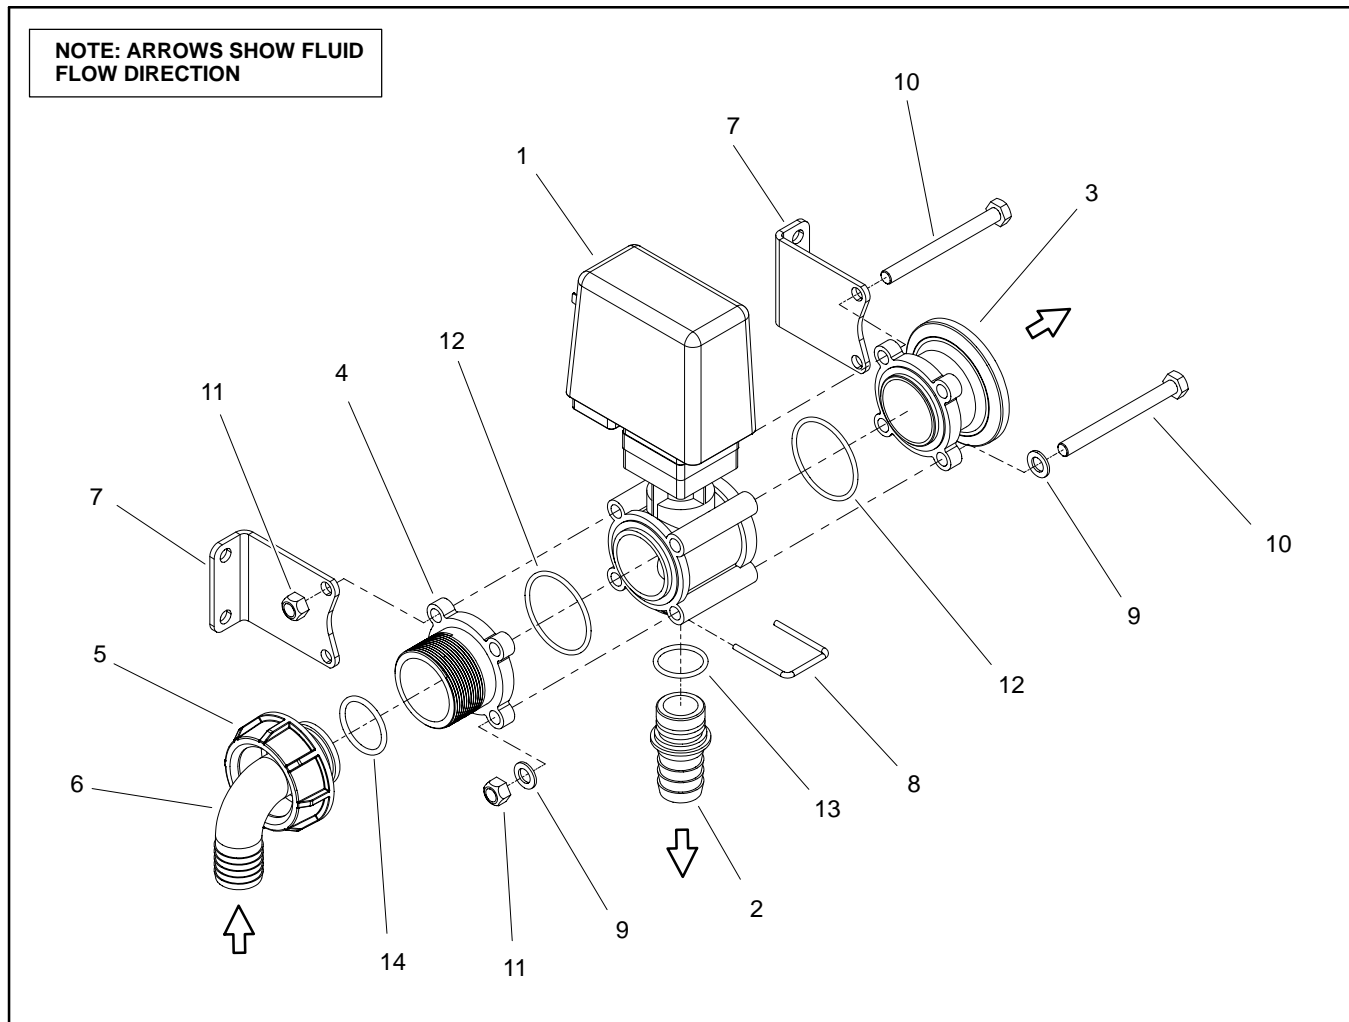

Figure 45
Disassembly (Fig. 45)
2. Disassemble regulating valve assembly as needed using Figure 45 as a guide. Discard all removed O-rings and gaskets.
Assembly (Fig. 45)
1. Assemble regulating valve assembly using Figure 45 as a guide.